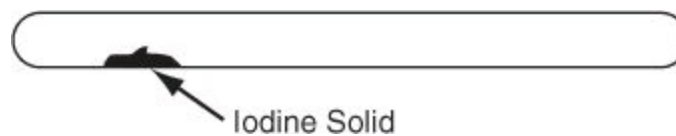

Figure P3.1.13
***3.1.13.** A 1.0 g sample of solid iodine is placed in a tube, and the tube is sealed after all of the air is removed (Figure P3.1.13). The tube and the solid iodine together weigh 27.0 g.